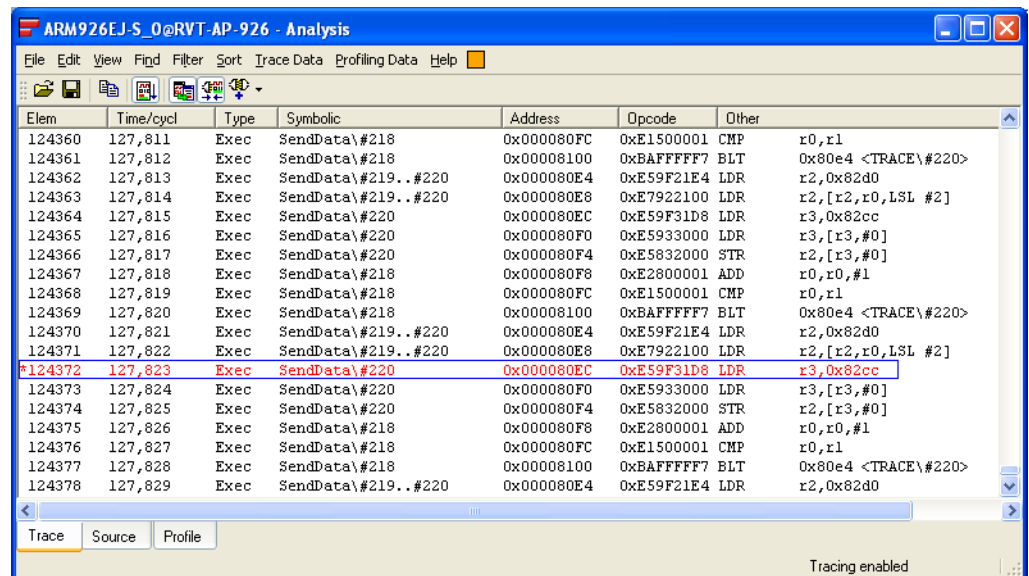

Figure 10-86 Captured trace for the port trigger
3. Select **Find Trigger** from the **Find** menu to find the trace line for the trigger point. Figure 10-86 shows an example: